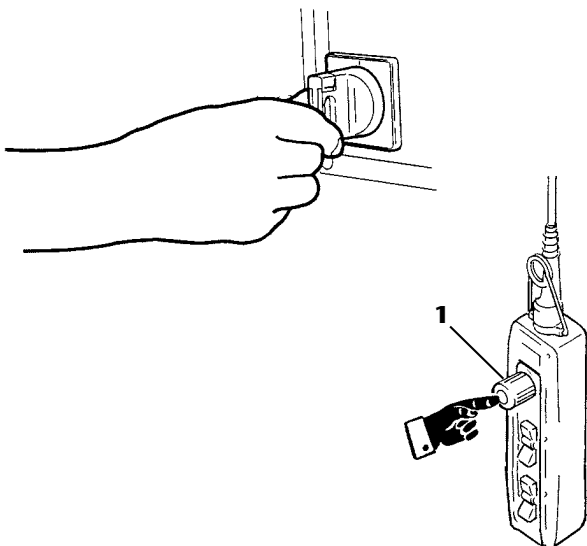

fig. 153
1. Cut off the trolley's power supply by pressing the emergency stop button -1-; set the line cut-off switch lever to the "O" or "OFF" position, then safely access the work area, taking the keypad up to the work area so as to avoid its being activated from the ground (fig. 153).